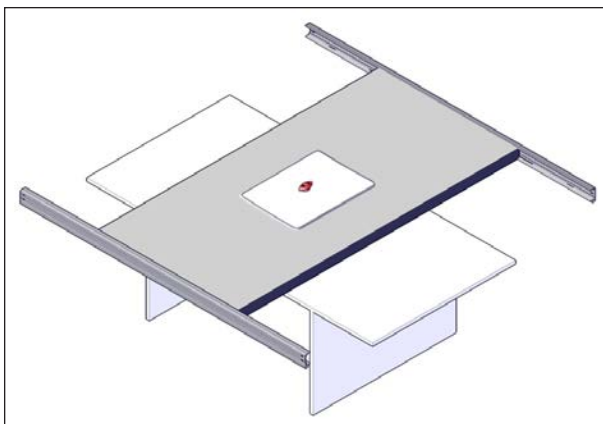

FIGURE 22: C-CHANNEL INSTALLATION
5. Install the longer C-Channels on the center panel, see Figure 22.